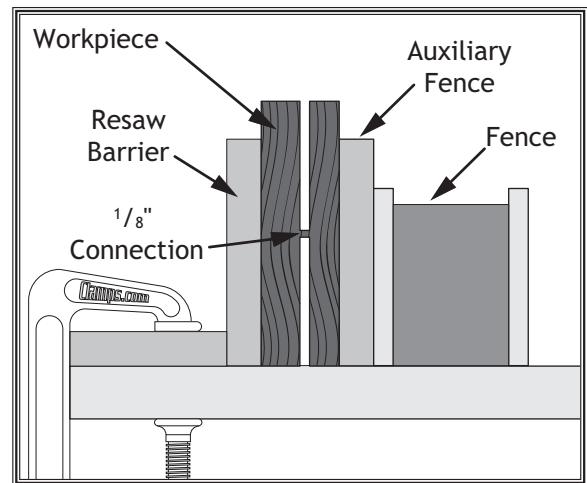

Figure 58. Ideal completed resaw cut.
4. Place the workpiece against the fence and slide the resaw barrier against the workpiece. Now clamp the resaw barrier to the top of the table saw (see **Figure 58**).
6. Raise the blade approximately an inch, or close to half the height of the workpiece (**Figure 58**), whichever is less.
9. Repeat **Steps 6-8** until the blade is close to half of the height of the board to be resawn. The ideal completed resaw cut will leave an $\frac{1}{8}$ " connection when the resawing is complete as shown in **Figure 58**. Leaving an $\frac{1}{8}$ " connection will reduce the risk of kickback.